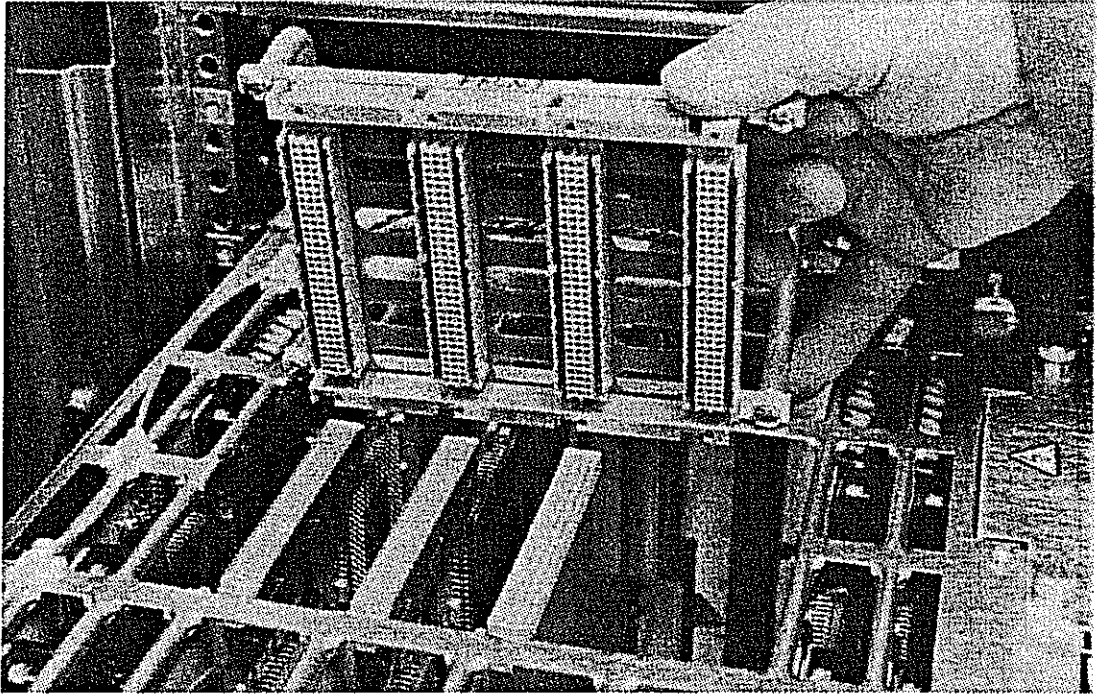

Figure 7-18. CRAY EL98 Memory Arbitration Bus
4. Lift off the MAB. Refer to Figure 7-18.
4. Place the MAB as shown in Figure 7-18.